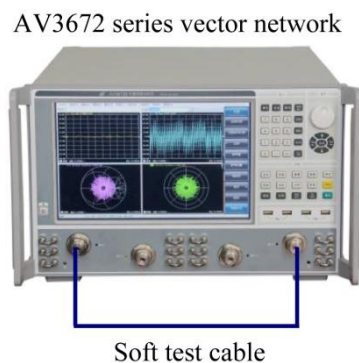

Fig. 11.7 Block Diagram of System Track Noise Test
- 1) As shown in Fig. 11.7, connect the system and preheat is for 60min at least.